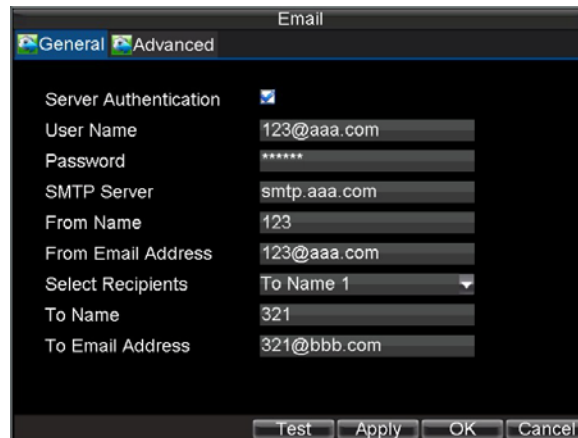

Figure 12. E-mail Menu
3. Click the Set button next to **E-mail** to enter the E-mail menu. The E-mail menu is shown in Figure 12.
4. Enter e-mail settings. Please refer to Figure 12 for details.